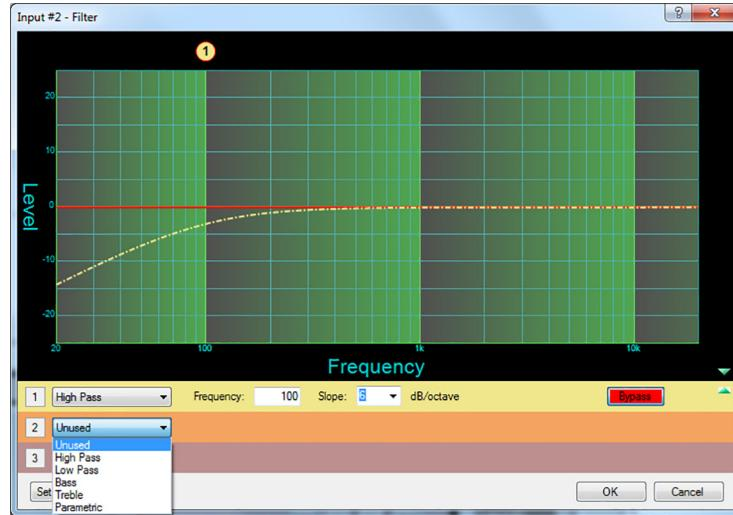

Figure 35. Selecting a Filter Type from the Filter 2 Drop-down Menu
- In the filter table at the bottom of the screen, select a filter type from the drop-down menu of the desired filter (see the example in figure 35).